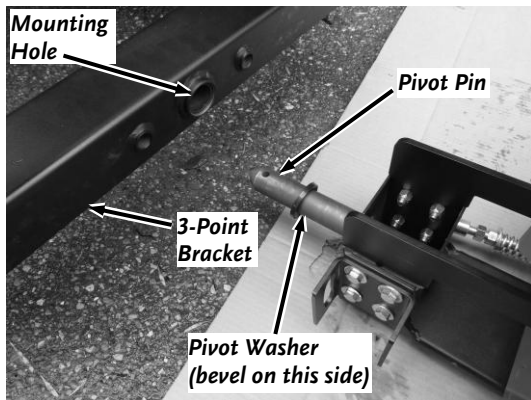

Figure 5
2. Slide the Pivot Pin into the Mounting Hole of the 3-Point Bracket as far as it will go (**Figure 5**).